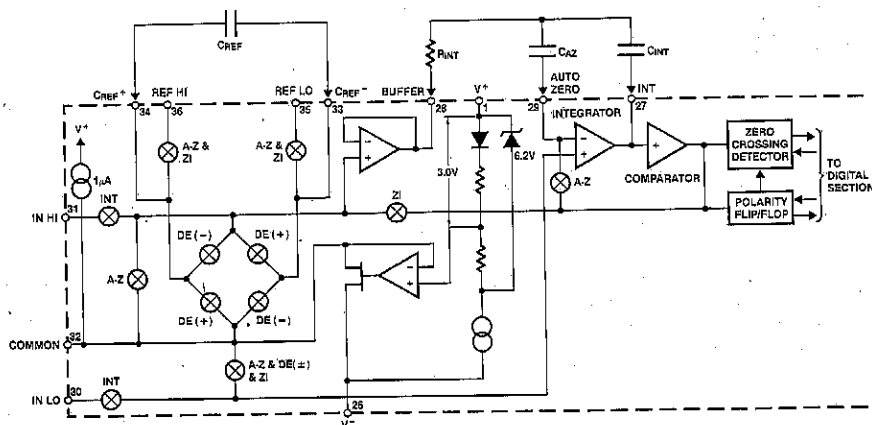

Figure 3. Analog Section of 7136
Figure 3 shows the Block Diagram of the Analog Section for the ICL7136. Each measurement cycle is divided into four phases. They are 1) auto-zero (A-Z), 2) signal integrate (INT), 3) de-integrate (DE) and 4) zero integrator (ZI).